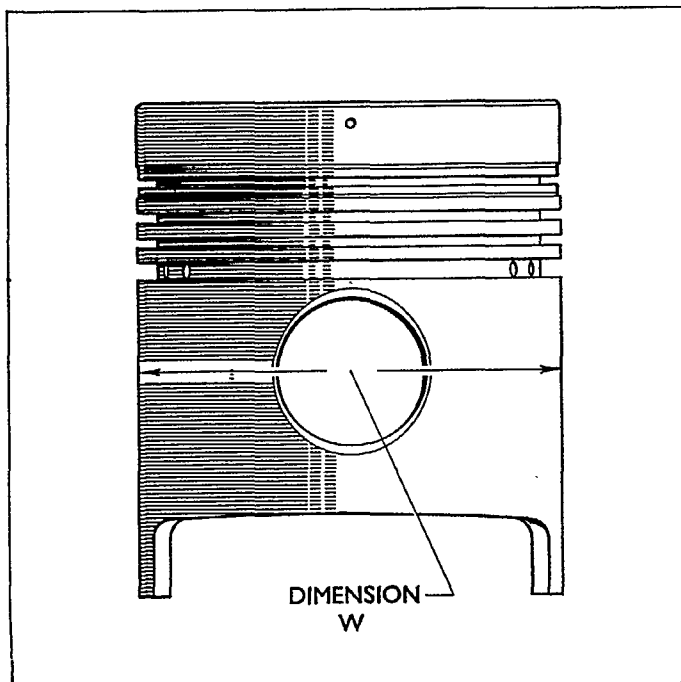

Figure 52A
5. With an outside micrometer, check and record the "W" diameter of the piston to be fitted, Figure 52A.
The exact finished bore size can be determined, by measuring the diameter of the piston at right-angles to the piston pin axis (Dimension W—Figure 52A) then add to this dimension the appropriate piston clearance as shown in specification on page 64.